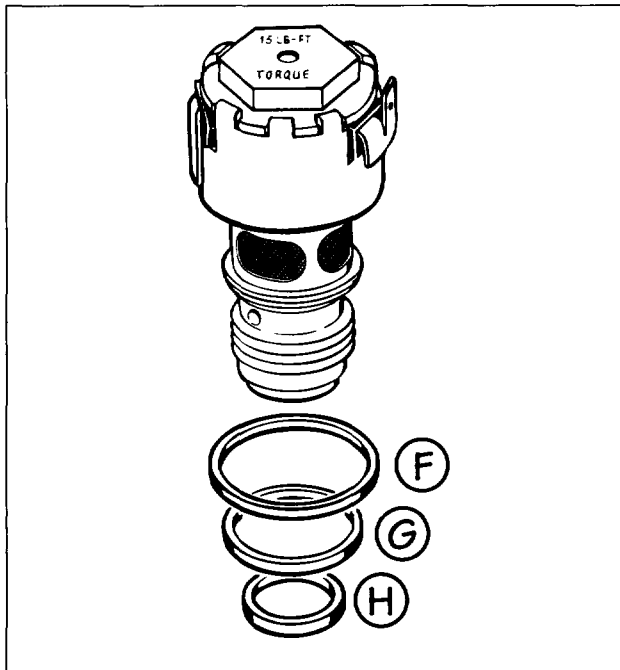

FIG. 52
1. Disconnect the solenoid harness. Using 7/8" socket and extension or 3/4" socket on later-style solenoids (see Fig. 52), unscrew the solenoid valve.
5. Reinstall the solenoid using new seal rings. Seat the lower seal ring (H, Fig. 52) in the base of the solenoid valve bore. Wipe clean lube oil into and around the bore. Place the upper and center seal rings (F, G) on the solenoid valve body. Be sure the seals are seated properly.
6. Carefully screw the solenoid into the housing without unseating the seals. Torque the valve to 10 lb.-ft. (14 N•m) for earlier-style solenoids; torque the valve to 15 lb.-ft. (20 N•m) for later-style solenoids (see Fig. 52). Be careful not to twist the seals while installing.